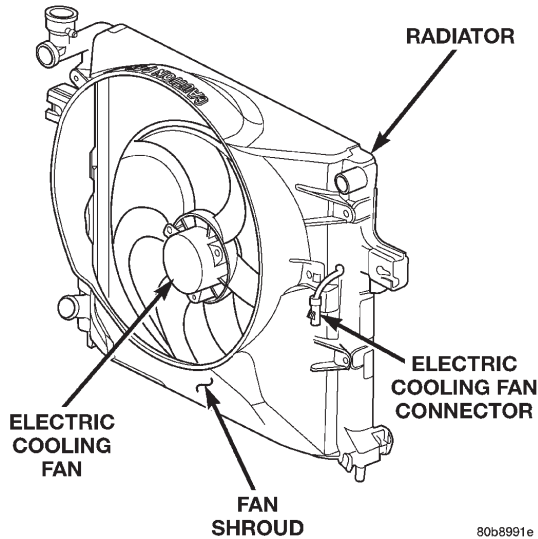

Fig. 42 Fan Shroud and Electric Fan 4.7L Engine
(5) Remove the mounting bolts from the shroud (Fig. 42).
(6) Remove the radiator core support.
(7) Remove the radiator mounting bolts.
(8) Gently pull radiator toward front of vehicle to provide clearance to remove fan shroud.
(9) Remove the shroud and fan from vehicle.